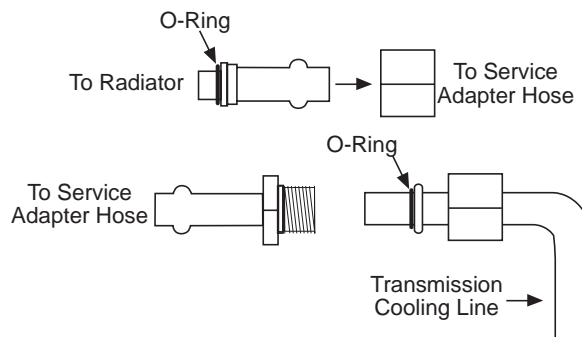

Figure 64. Kit #8 Installation on Ford Contour
3. Attach the male portion of the fitting in kit #8 to the radiator (see Figure 64).
2. Insert the large kit #3 fitting (see Figure 64) into the receptacle and continue pushing until the plastic clip in the receptacle engages the fitting.